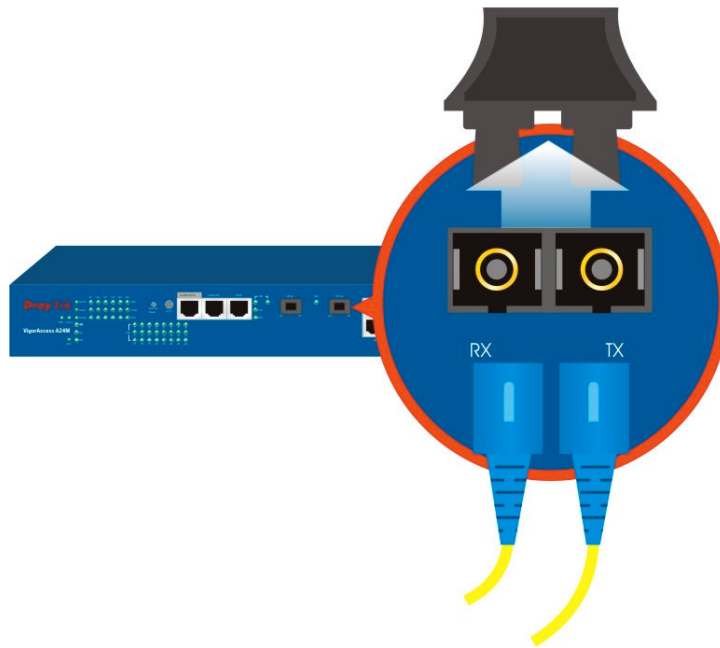

Figure 1-18. The optical uplink (SC type) trunk cable connection
The two types of interface are visually and functionally similar. Installation procedures are the same. This dual port has both connectors on transmit (upstream) and a receiving (downstream) as shown in Figure 1-18. There are warnings for the optical fiber connection.
Step 3 Attach the external cable to the recessed connector on the faceplate as shown on Figure 1-18.